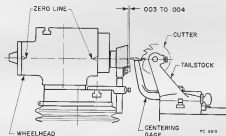

Figure 38A
1. Adjust the saddle away from the wheelhead to allow plenty of space for the set-up. Clean the table and bottom of the right and left hand tailstocks. Clamp them on the table, properly spaced for the arbor (item 33, page 122), or mandrel used for the set-up.
7. Mount the tooth rest assembly on the wheelhead, using the solid post type with offset blade (Figure 38A).